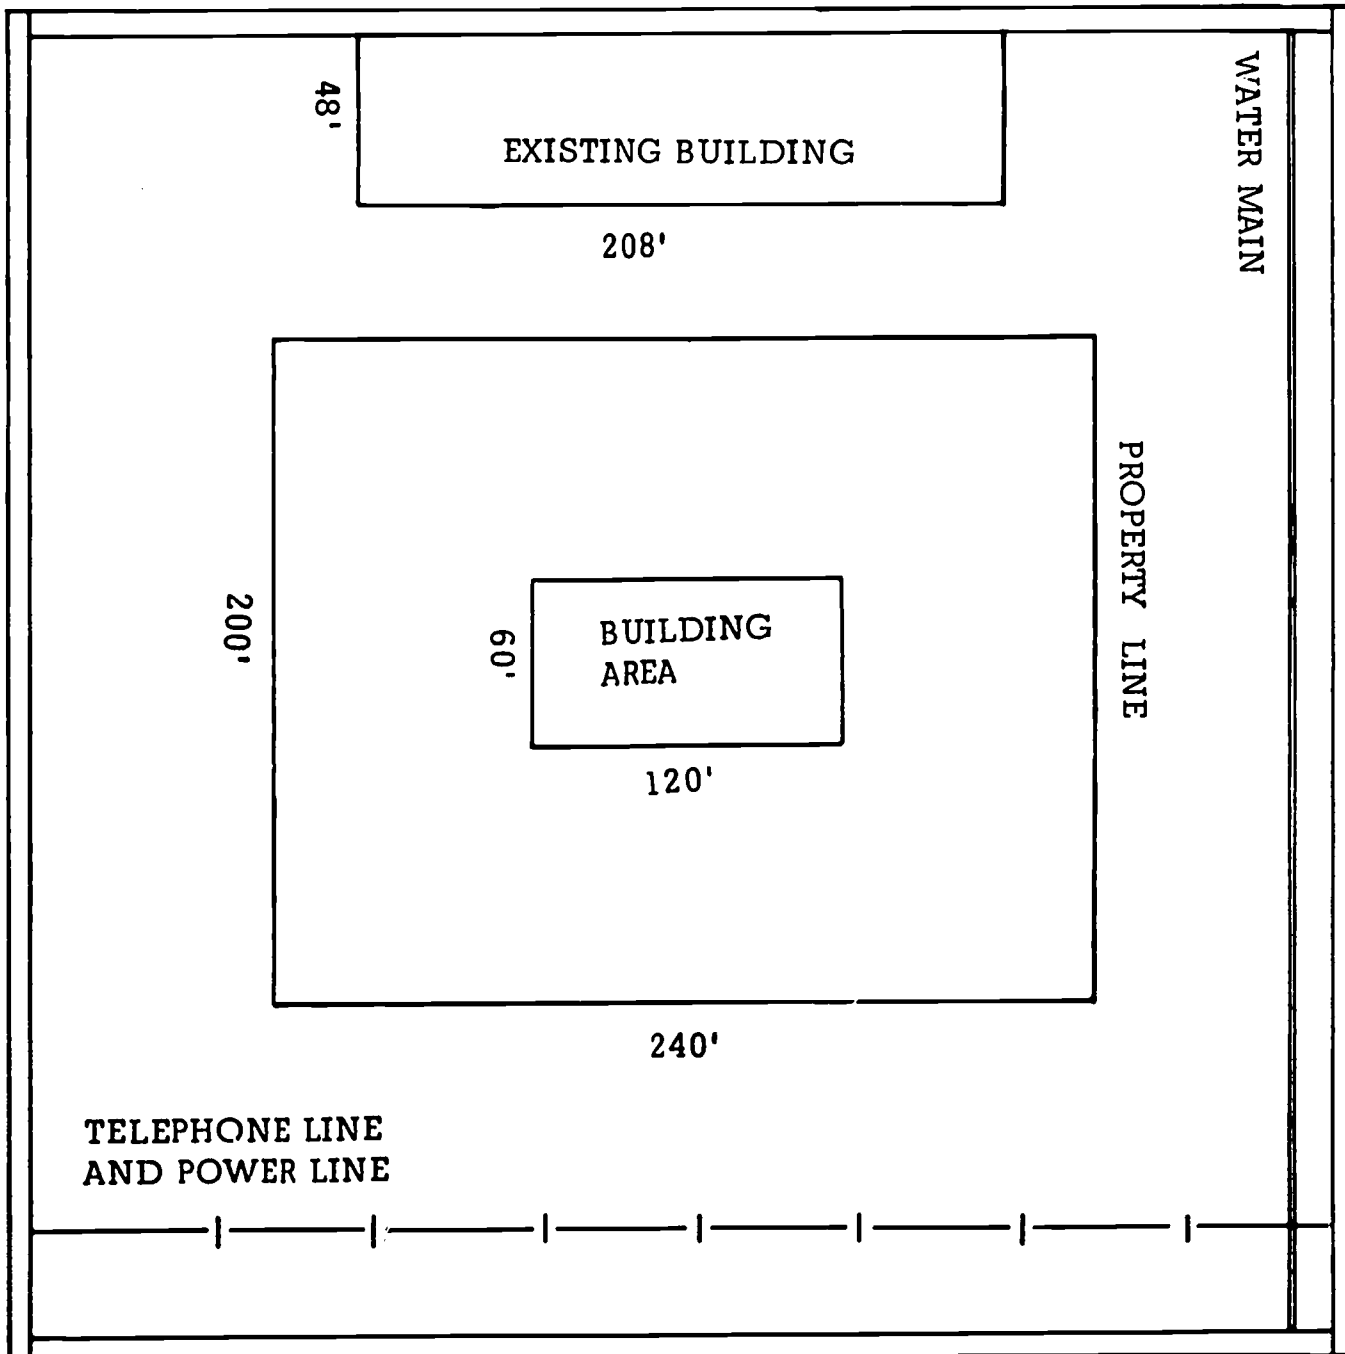

Fig. 30-10. Locating Building Area
11. Place the building area in the middle of the construction site. See Fig. 30-10.